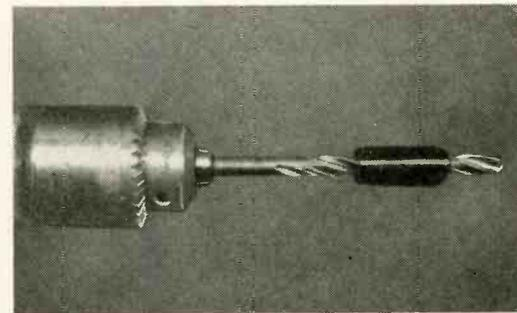

Fig. 8—Temporary depth gauge is made by wrapping tape around bit.
*that could be damaged.* If you must drill a hole where parts below might be damaged, make a temporary depth gauge by wrapping tape tightly around the bit stem at the proper place (Fig. 8). While it won't stop the drill entirely, it will slow it up enough to let you gain